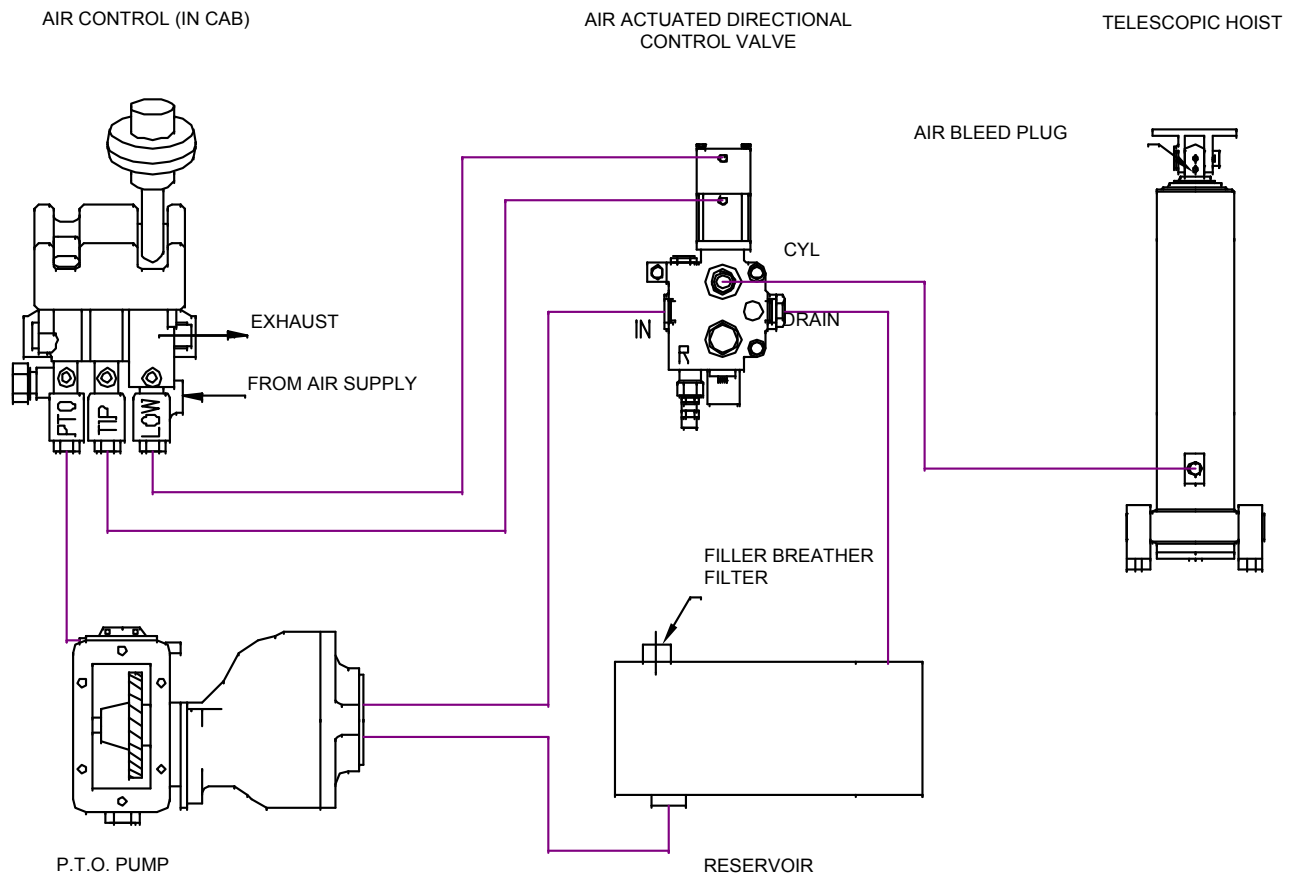

Figure 2: Standard hydraulic connections
- Basic hydraulic fitting skills are required for the fitting of the cylinder into the system. Standard hydraulic connections are described in figure 2.